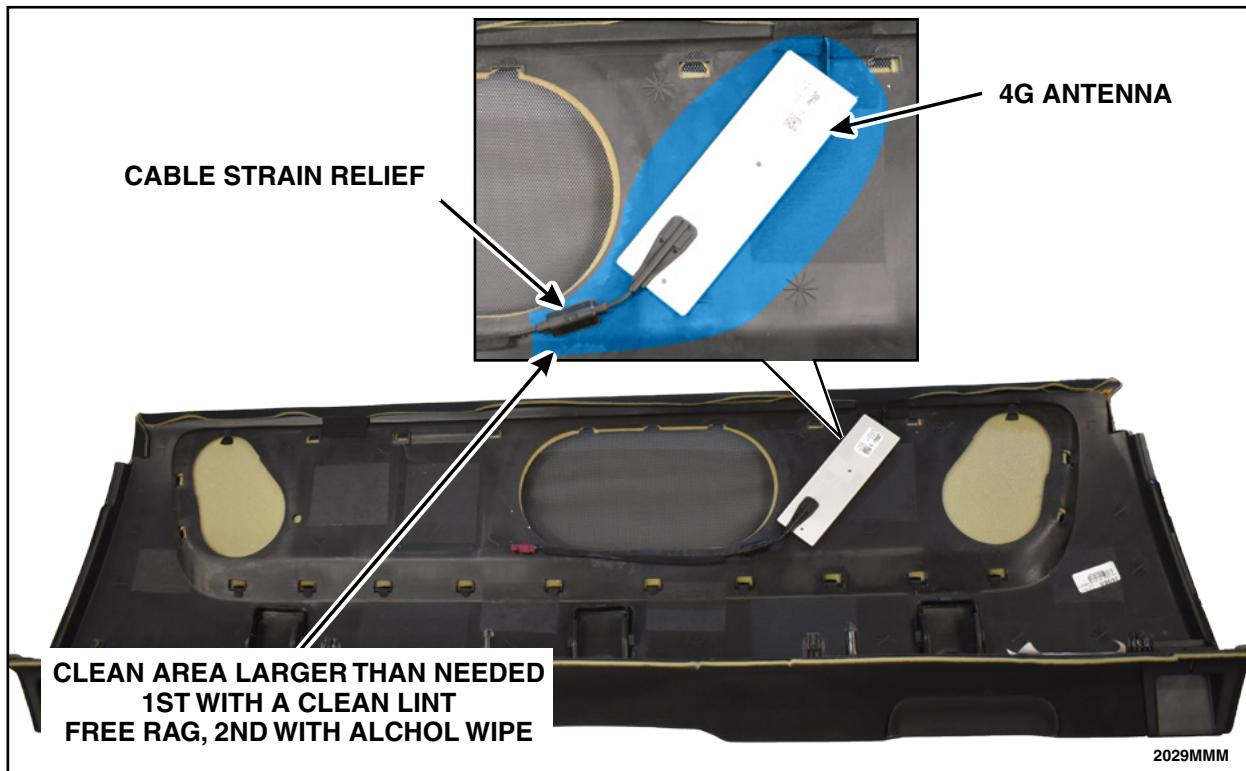

FIGURE 2
3. Install the new 4G antenna. See Figure 2.